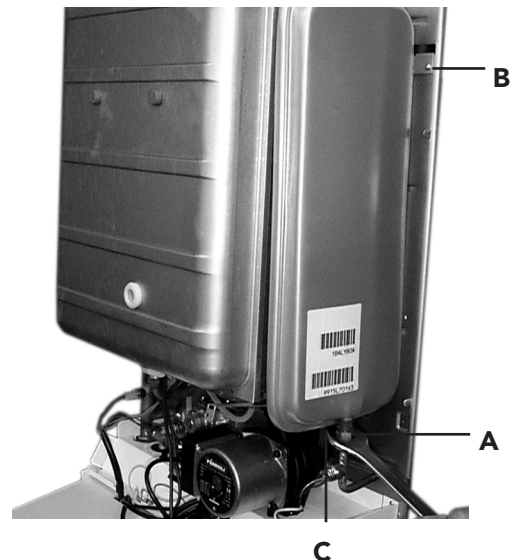

Fig. 31
7.04 Remove and re-presurising of C.H. expansion vessel (fig. 31)